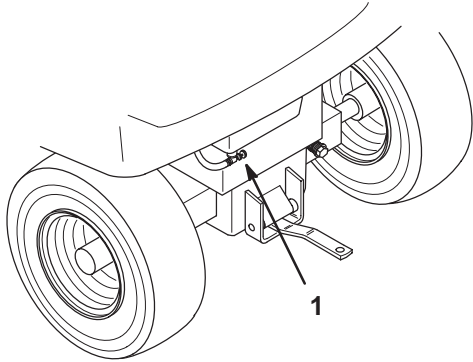

Figure 40
3. Close the fuel shut-off valve at the fuel tank (Fig. 40 & 41).
2. Close the fuel shut-off valve at the fuel tank (Fig. 40 & 41).
7. Open the fuel shut-off valve at the fuel tank (Fig. 40 & 41).